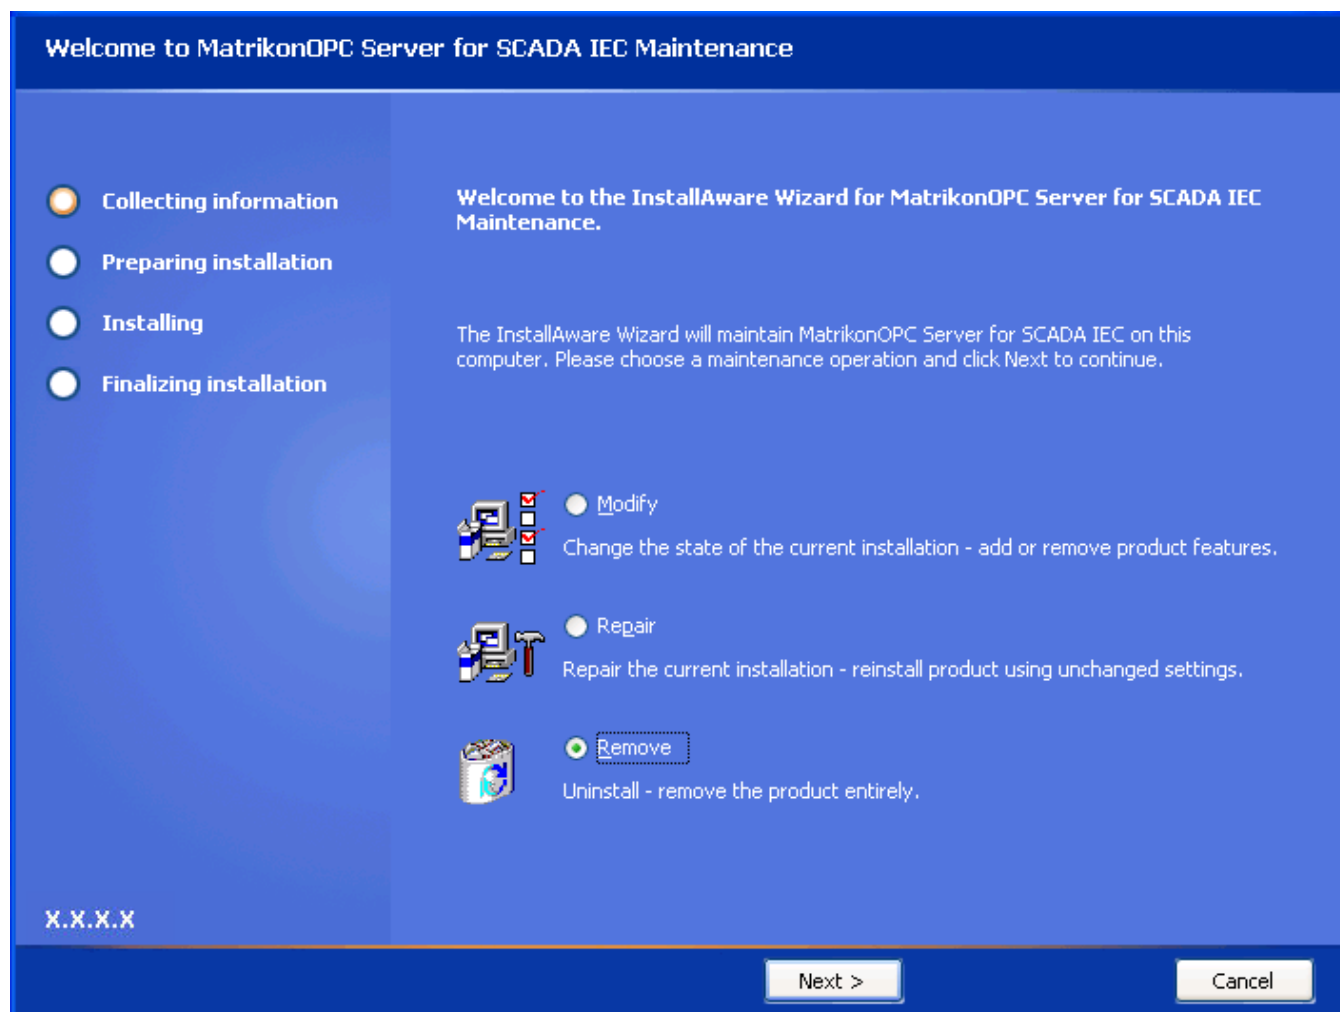

Figure 64 - Welcome to the MatrikonOPC Server for SCADA IEC Maintenance Screen
6. The **MatrikonOPC Server for SCADA IEC – InstallAware Wizard** window appears, and the **Welcome to MatrikonOPC Server for SCADA IEC Maintenance** screen (Figure 64) is displayed.